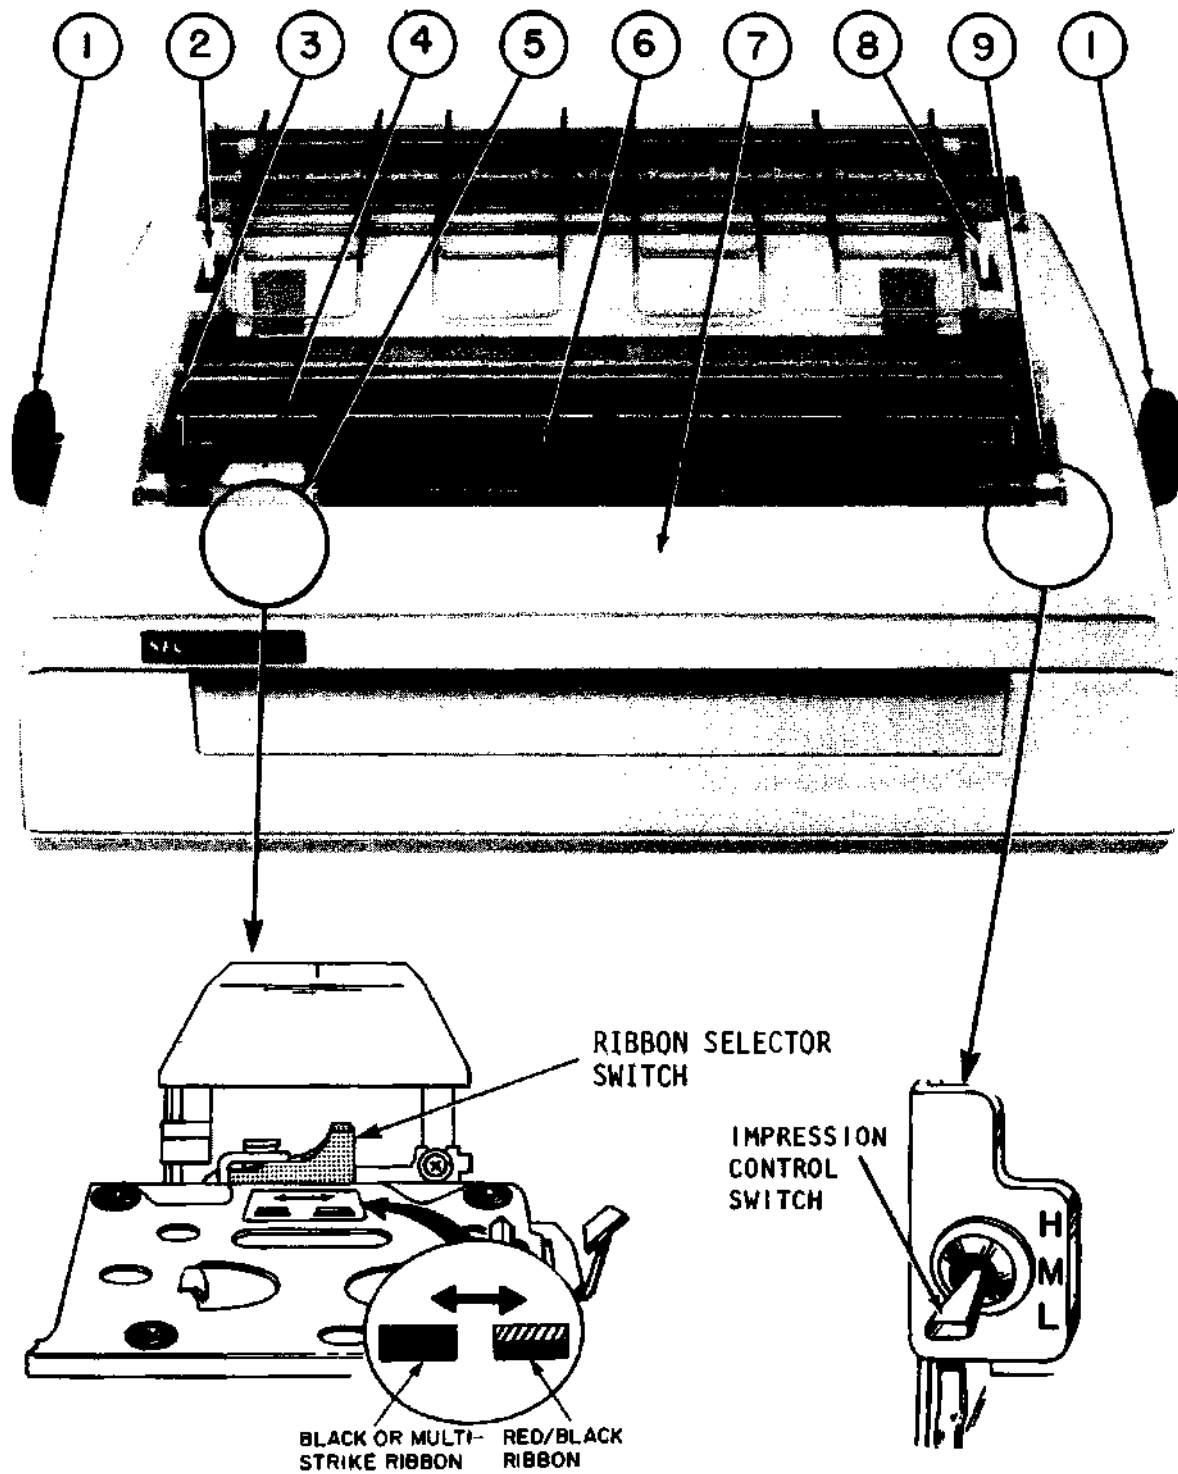

Figure 2-4 Printer Controls
Figure 2-4 illustrates the controls you will use to position paper and to make adjustments for print quality. The numbers in the following paragraphs correspond to the numbers in the figure.
- (1) Platen knobs. These knobs allow the platen to be rotated manually to insert paper and position it properly. The right knob provides variable platen action; when you push the knob in, the platen rolls freely in either direction. You can change the position of the writing line by using this variable platen function.
- (2) Copy control lever. This lever moves the platen forward or backward to compensate for different form thicknesses (number of carbons). Place it all the way forward for a single copy, and all the way rearward for an original and five carbon copies. Intermediate positions provide for form thicknesses between these two extremes. When printing on a form of several copies with this lever moved toward the rear, you may have to increase the print hammer intensity for optimum print quality by changing the impression control switch (see Figure 2-4, 9).
- (3) & (4) Pressure bail levers and pressure bail. The pressure bail holds the paper against the platen. This is necessary for optimum print quality and quietness. To insert paper, pull the bail forward, away from the platen, by moving one of the levers. When using a pin-feed platen or a forms-tractor assembly, move the pressure bail forward away from the platen. The pin-feed paper clamps or the forms-tractor assembly doors hold the paper in the optimum position for proper operation.
- (5) Ribbon Selector Switch. The ribbon selector switch is located under the top cover under the ribbon cartridge black lever. Place this switch to the left for black ribbon or multi-strike ribbons, and to the right for red/black ribbons.